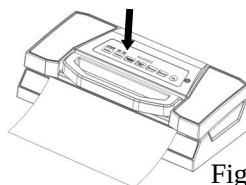

Fig.3
- 6.Then press **Vac& Seal** button, the unit start to vacuum and will seal the bag automatically - **Fig 3**